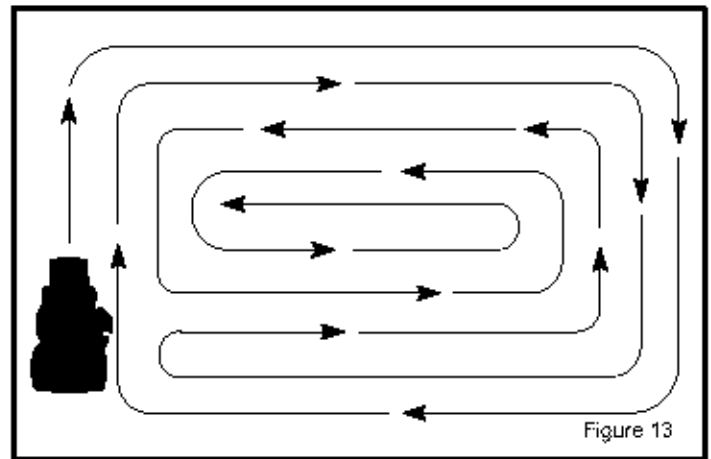

Figure 13
8. When you mow large areas, start by turning to the right so that the cut grass will discharge away from shrubs, fences, driveways, etc. After one or two rounds, mow in the opposite direction making left turns until finished (Figure 13).